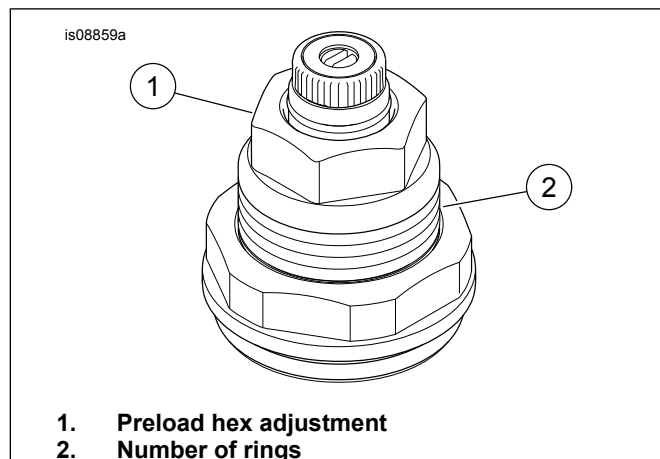

Figure 7. Fork Preload Adjustment
- See Figure 7. Turn preload hex (1) counterclockwise till it stops.